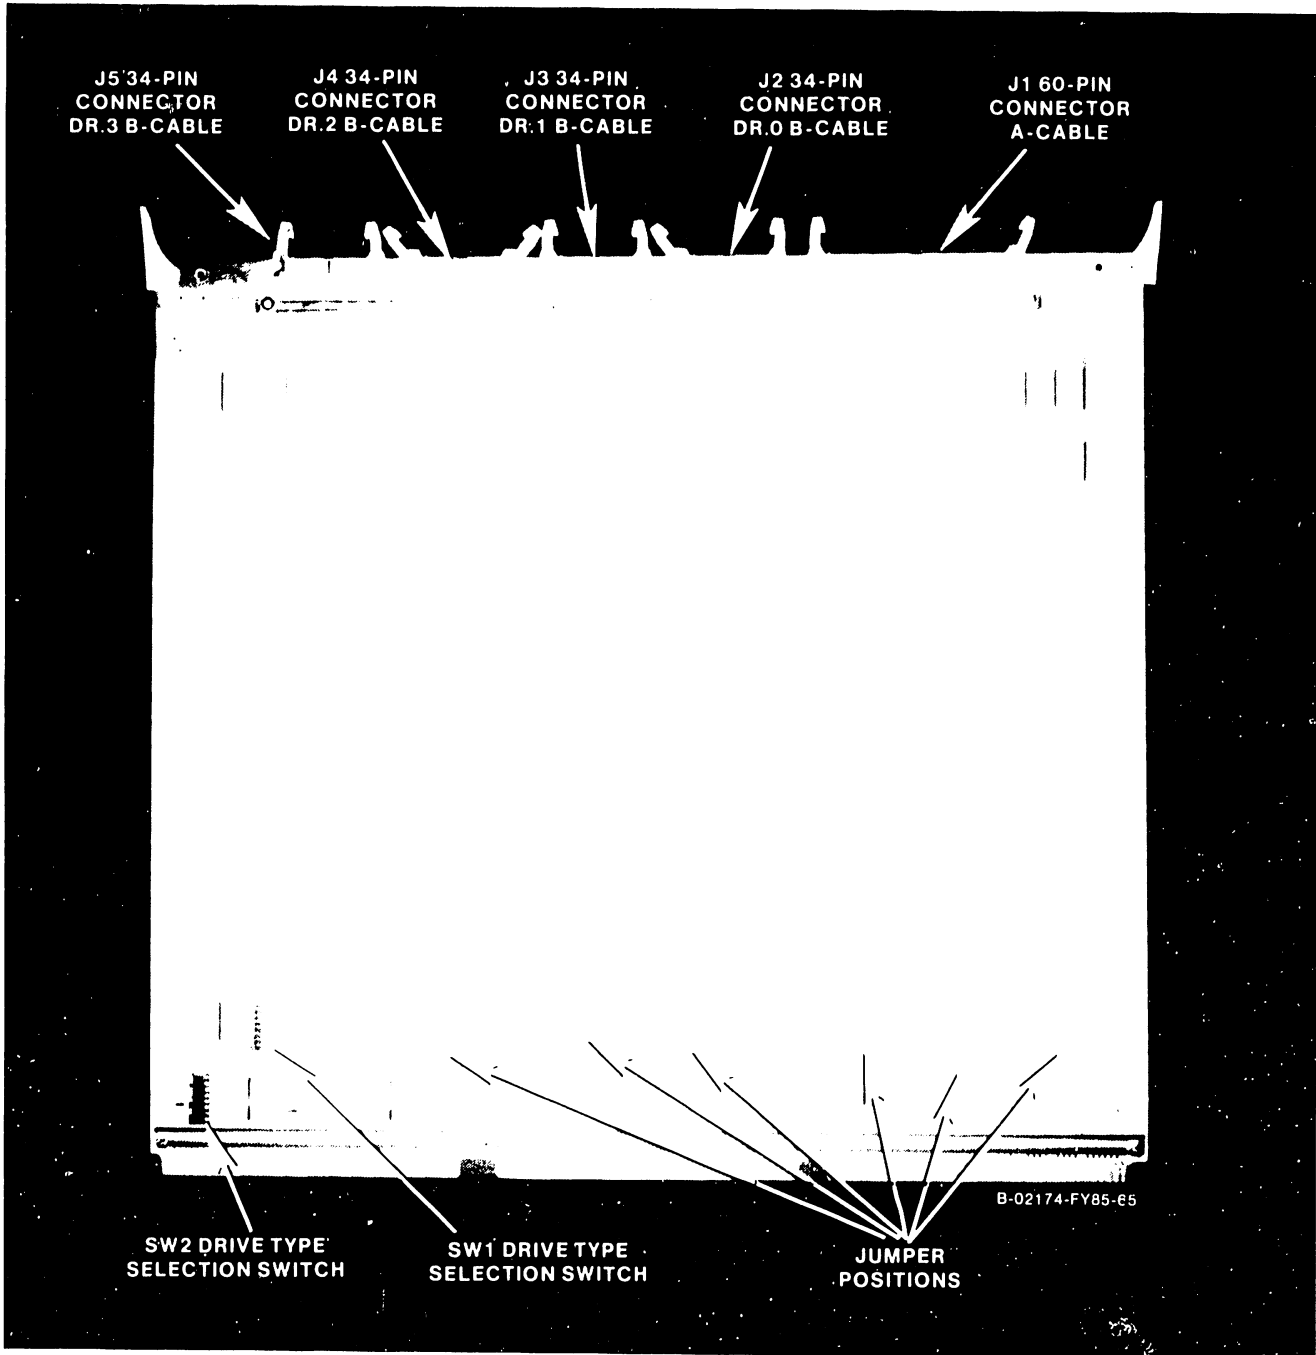

Figure 5-19. Four-Port External Disk Drive Device Adapter
1. Remove the 210-8312, 8313, 8314, or 8315 External Disk Drive Device Adapter (figure 5-19) using the procedures given previously in paragraph 5.5.
5. Check the address selection jumpers as shown in figures 5-19 and 5-21. Make sure that the External Disk Drive Device Adapter address does not conflict with other device adapter addresses.